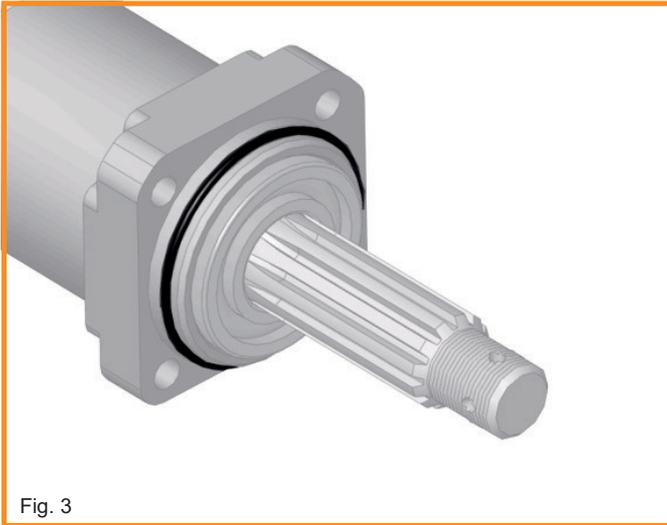

Fig. 3
- Install the O-ring (Pos:6, Fig.1) on the wheel bearing as shown in the picture Fig.3.